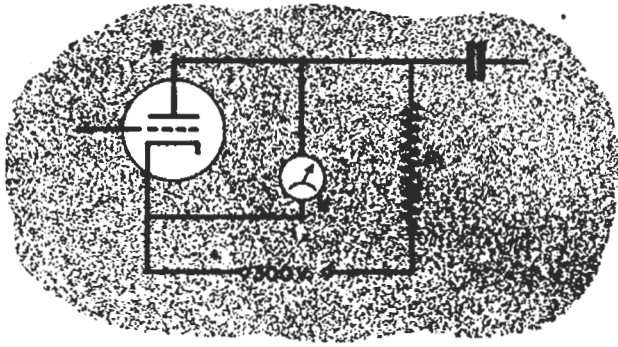

FIG. 24. A typical voltage-measuring problem. The accuracy depends on the ohms-per-volt sensitivity of the meter.
As a practical example of a typical radio circuit, consider Fig. 24. Suppose that resistor  $R_1$  has a value of 50,000 ohms and the tube plate-cathode resistance is 25,000 ohms. The
*Case I.* If the voltmeter in Fig. 24 has a 100-volt range which requires 10 ma. for full-scale deflection, its resistance  $R_M = E \div I$ , or 10,000 ohms. This resistance is in parallel with the tube resistance  $R_P$  of 25,000 ohms, as shown in Fig. 25, so the resulting parallel combination of meter and tube is
**Case 3.** A 100-volt meter requiring only 0.1 ma. has a resistance of 1,000,000 ohms. Such a meter will indicate about 98 volts if placed in the circuit of Fig. 24. The error now is only about 2%, well within the normal tolerances allowed for this kind of circuit.